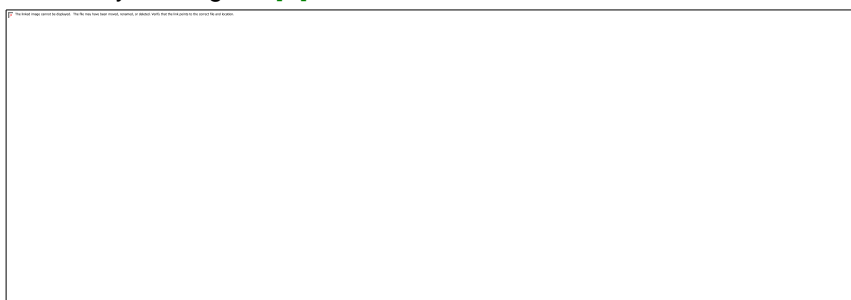

Figure 4-33
14. The first step is to size the submain pipes. (Due to a minor issue in IRRICAD where, when doing designs back to back in the same session, the valve pressure setting from the previous design will be remembered in the next design first go to *Design|Zone Design Configuration* and simply click [OK] on the dialog to clear this). Select *Design|Zone Design|LP Design*. It is always useful to view some reports before continuing. Look at the *Reports|Zone Design Reports|Zone Design Summary*, this report gives a good indication of what is happening in the zones. It should look something similar to Figure 4-33. The present maximum dripper pressure is 12.43psi (8.74m) and the minimum is 10.79psi (7.59m). The actual pressure variation in the zone is calculated from the difference between the actual maximum and minimum outlet pressures relative to the actual maximum outlet pressure and is 13.08%. This pressure variation includes the submain friction loss as well as the loss in the tapes. Close the report window by clicking the [X].